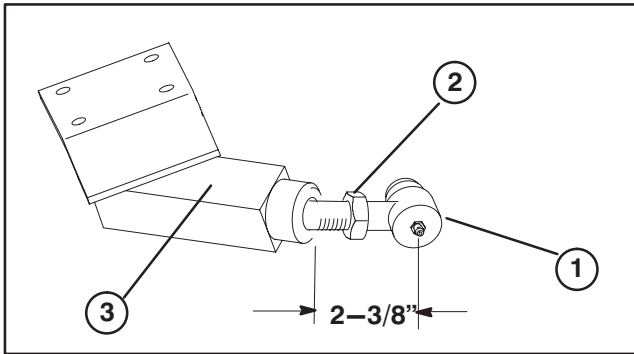

Figure 5
CONNECT RIGHT HAND PUSH ARM TO CUTTING UNIT (Fig. 5- 6)
9. Tighten large jam nut securing ball joint to push arm adapter (Fig. 5). When tightening jam nut, hold ball joint straight to permit proper oscillation during raising and lowering of cutting unit. Carefully remove wood block holding push arm down.